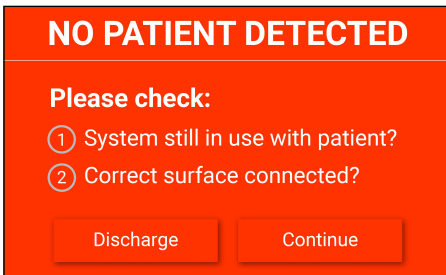

Figure 25. No Patient detection alert
1. The Guardian System 2.7 will alert the user if after a period of time a patient is not detected on the support surface when being used on the bed or seat only. An auditory alert will occur for three (3) minutes.
2. Follow the instructions on the screen to address the alert. (Fig. 25) Assess for proper placement of the support surface.